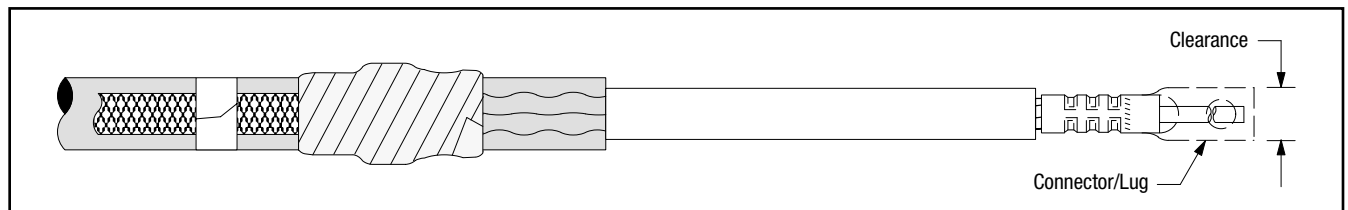

Figure 22
14.1 Check to insure the 3M™ Cold Shrink Silicone Rubber Termination QT-III assembly fits over the selected lug or connector (*Figure 22*) will not fit through the termination core, clean the insulation (*per Step 15.0*) and slide termination on cable before installing lug or connector. **DO NOT REMOVE CORE AT THIS TIME.**